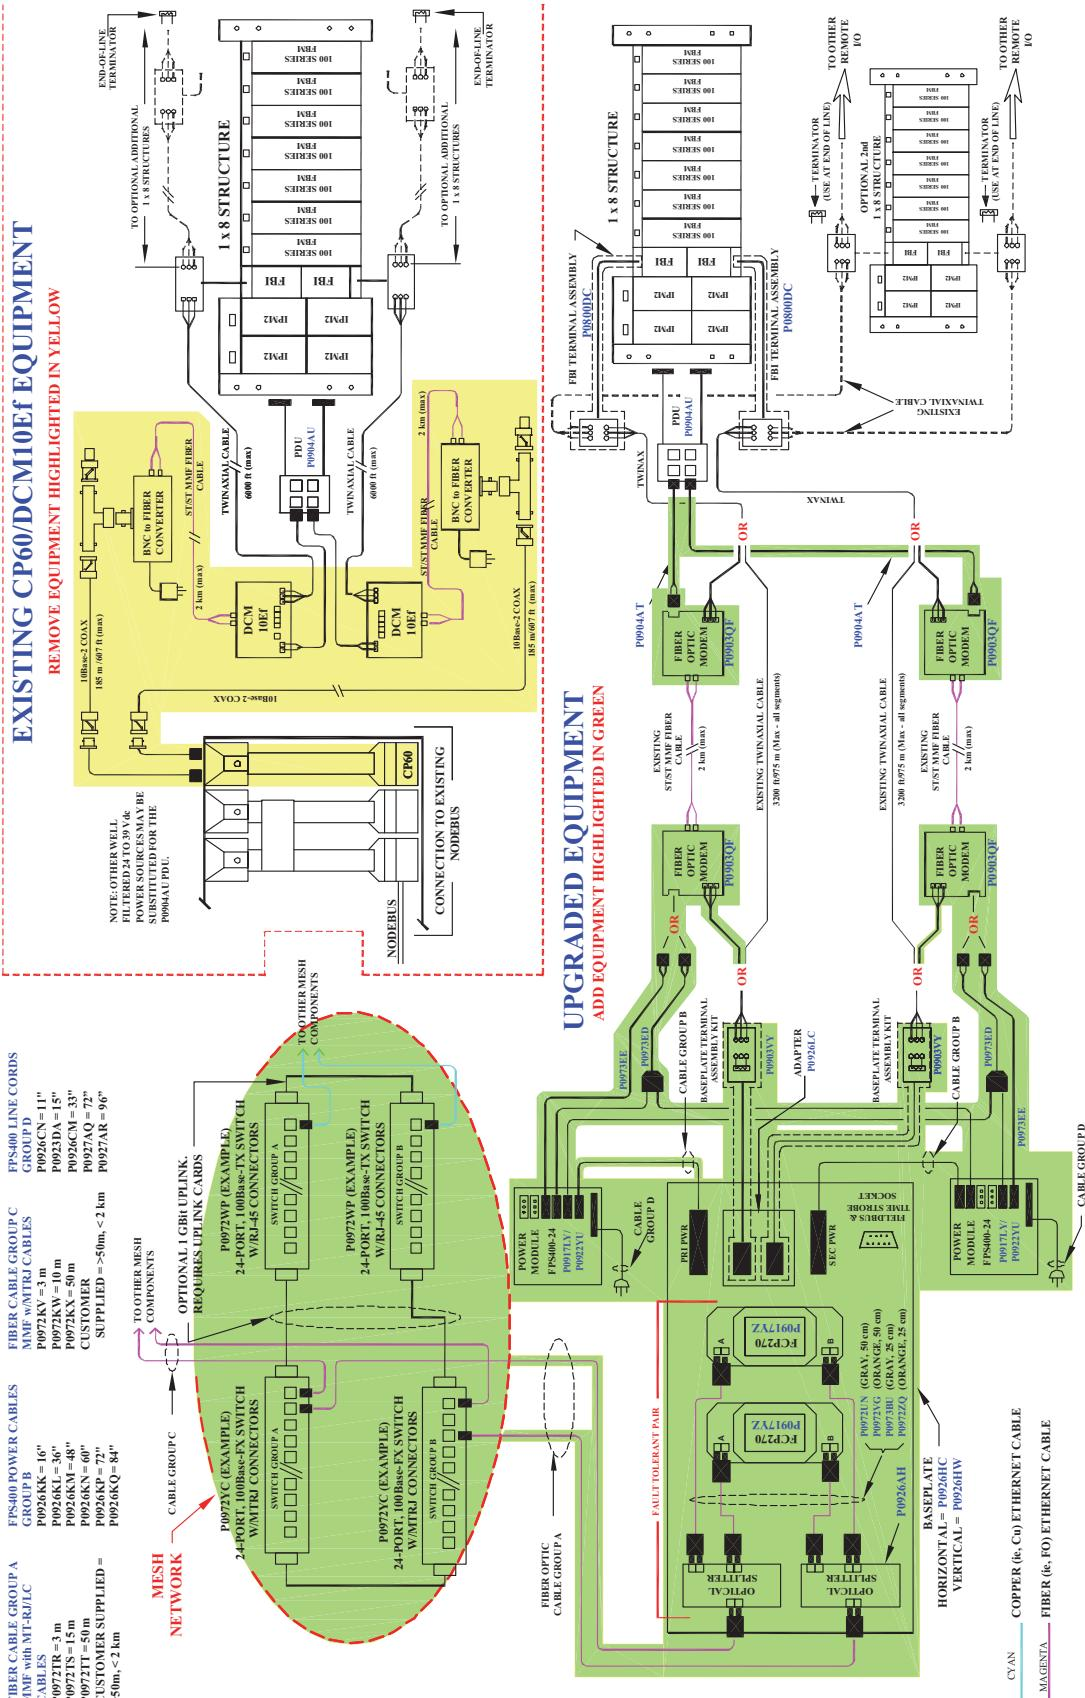

Figure A-4. Converting CP60 with DCM10Ef to FCP270
- ◆ Figure A-4 “Converting CP60 with DCM10Ef to FCP270” on page 87